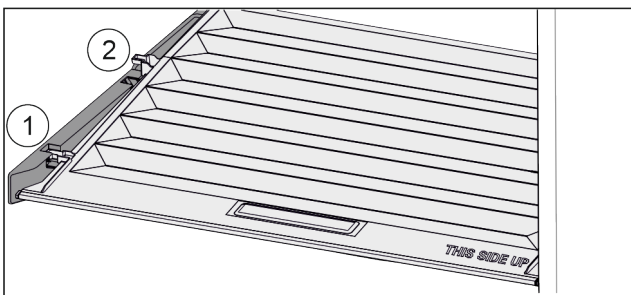

Fig. 94
- ▶ Pull the lid up at the front in the retaining parts to the opening Fig. 94 (1).
- ▶ Lift from the back and pull it up and out Fig. 94 (2).